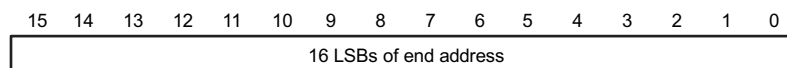

Figure 7-8. REFL (at Data-Space Address 00 084A₁₆)
- (b) If the number of words you want to log is greater than 256, specify a data logging end address in REFL and the six LSBs of REF_H (see Figure 7-8 and Figure 7-9). Load the ten MSBs of REF_H with 0s. When using this method, be sure to set the data logging end address control register (EVT_CNTRL) first, and then the DMA control register (DMA_CNTRL). EVT_CNTRL is described in Table 7-5, and DMA_CNTRL is described in Table 7-4.